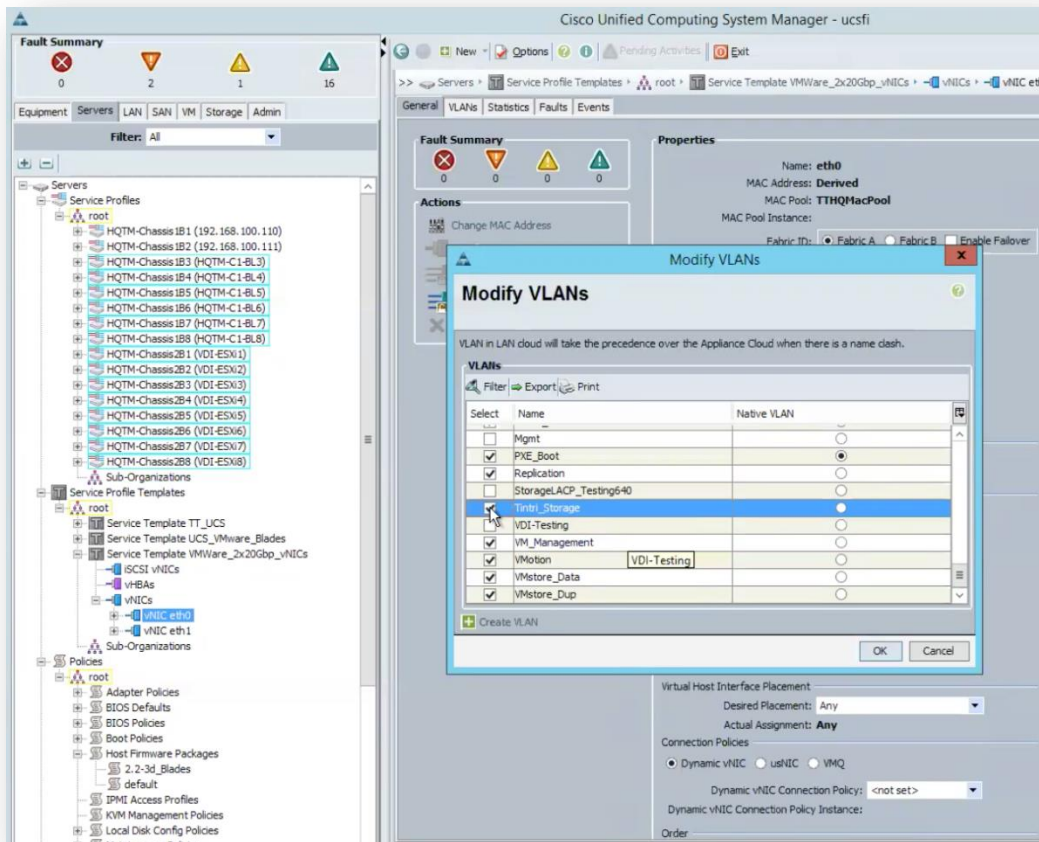

Figure 13 – Adding the Tintri VLAN to a UCS Service Profile
2. Select "Modify VLANs" from the Actions menu and select the checkbox for the VLAN you created above, as shown in Figure 13